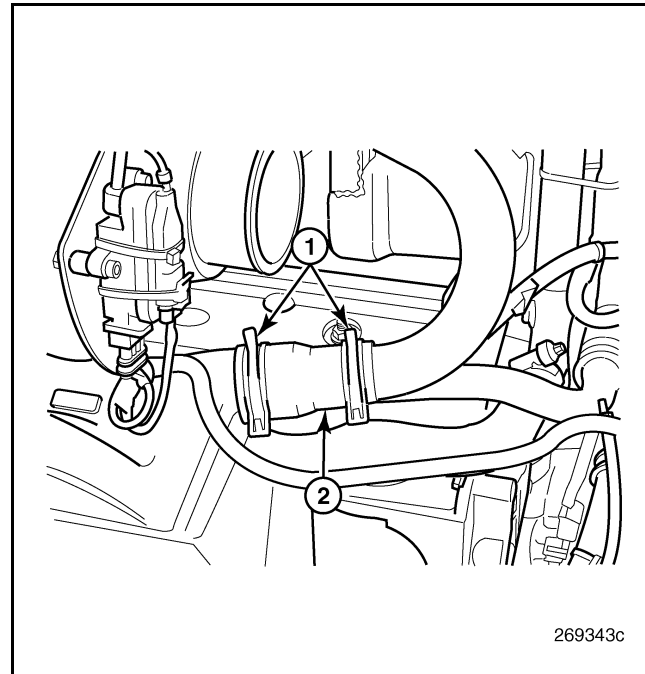

Figure 432 — Cool Tube Hose Connection (Cooler Connection Shown)
3. Place the cool tube assembly in position on the engine between the EGR mixer tube and cooler ports (or coupling adapters). Slide the coupling hoses onto the ports/adapters and secure with the hose clamps (Figure 432).